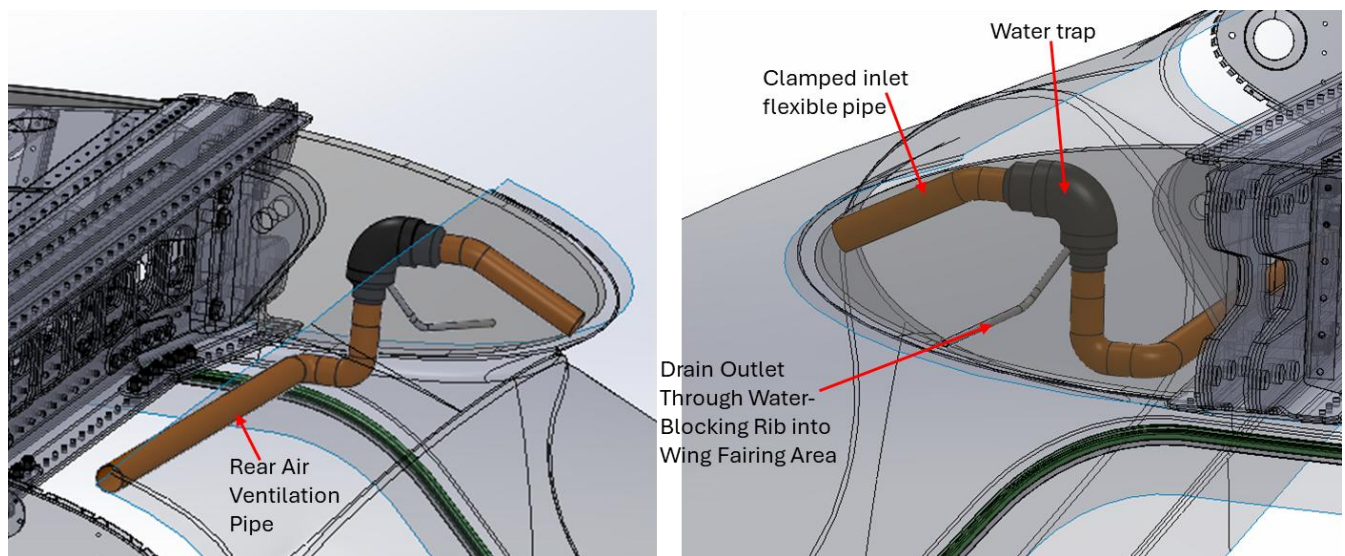

Figure 12: Completed Water Trap Assembly, Showing Correct Orientation with Trap at Lowest Point.
4. Position the supplied modified water trap assembly in its upright orientation with the collection chamber located at the lowest point to ensure correct operation of the snorkel mechanism, in accordance with Figure 12.